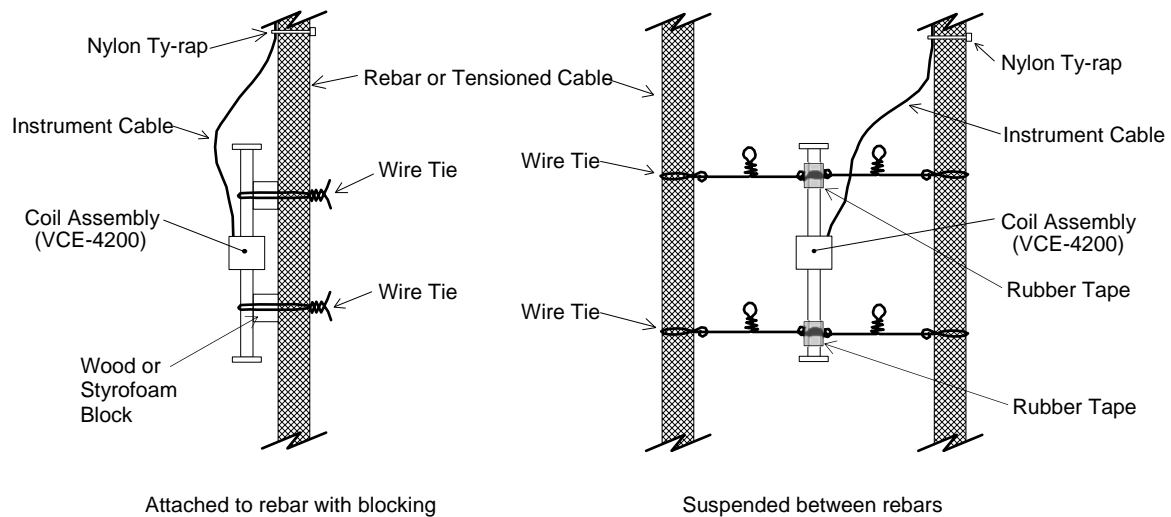

Figure 3 - Attaching VCE-4200X Strain Gages to Rebar
When casting the gage directly into the structure care must be taken to avoid applying any large forces to the end blocks during installation. The model 4200ER can be wired into position by wiring directly to the tube (see Figure 3). The wires should not be tied too tightly since rebar and/or tension cables tend to move during concrete placement and vibration. Care should be taken not to damage the cable with the vibrator. The gage can also be placed directly into the mix if it can be assured that the orientation will be correct after the gage placement.
1. **Wrap a layer of self-vulcanizing rubber tape around the gage in the two places shown in Figure 3 (around the tie points). The rubber layer serves as a shock absorber, dampening any vibrations of the suspension system. Sometimes, without the rubber layers, as the tie wires are tightened the resonant frequency of the tie wires interferes with the resonant frequency of the gage. This results in unstable readings or no readings at all. This effect disappears once the concrete has been placed.**